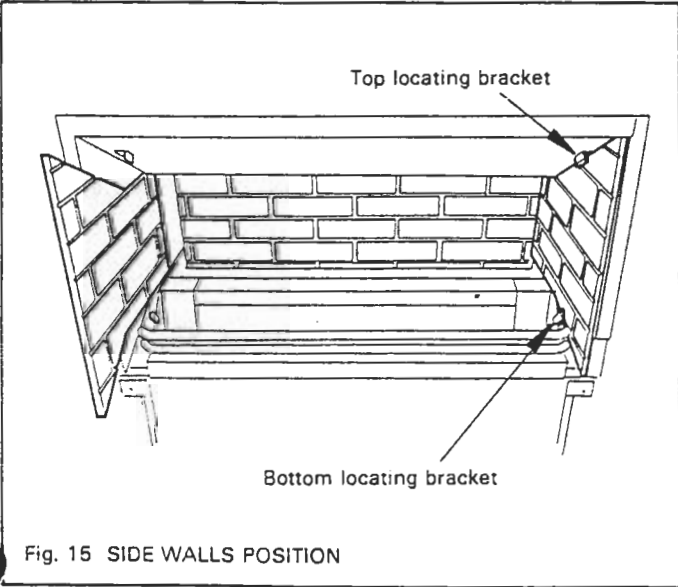

Fig. 15 SIDE WALLS POSITION
6.2. Place the ceramic side walls in position at the sides of the firebox. The sides are left and right handed. The sides should be held in position by the top and bottom angled brackets at the sides of the firebox (see fig. 15).